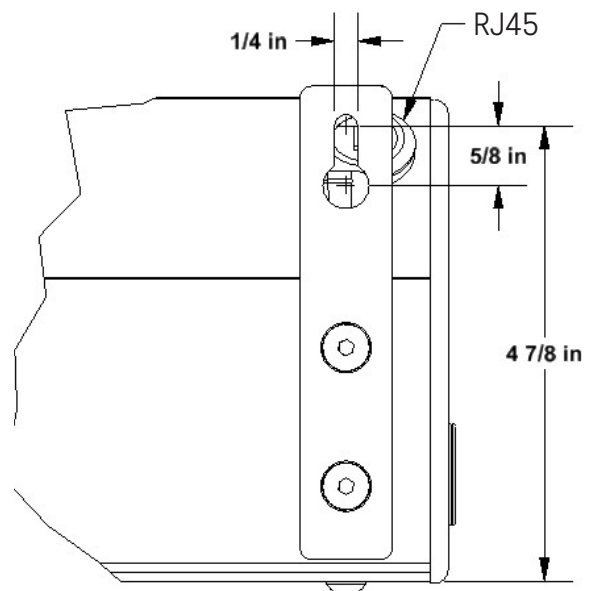

Figure 7. RS1 wall mount bracket detail.
1. Start by measuring the center to center dimension of the mounting holes (see Figure 7). (This information would also be on the order drawing).